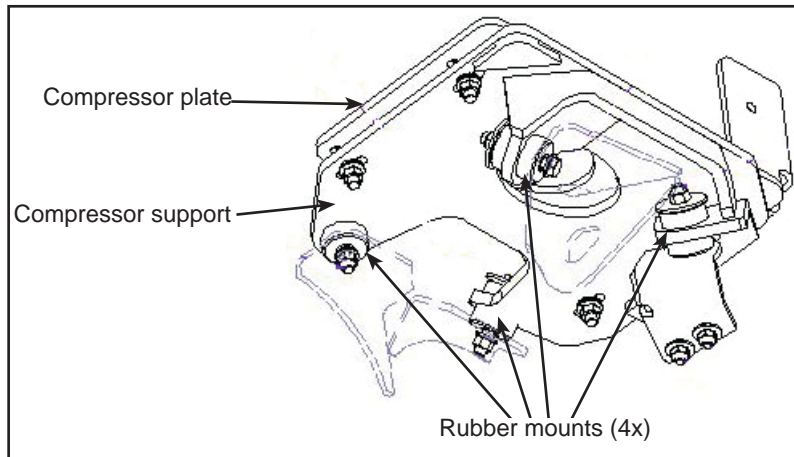

Figure 2 - A/C Compressor Support Rubber Mounts
- 1.5. Remove the four rubber mounts on the A/C compressor support. See Figure 2.